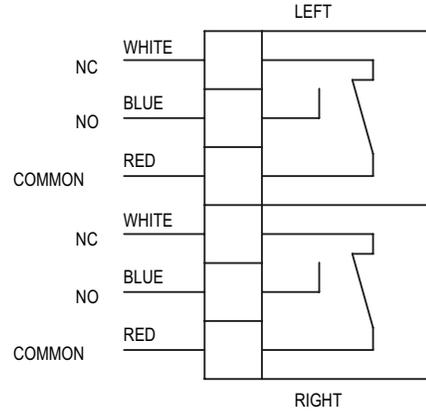

Figure 3: Wiring diagram
- See Figure 3 below for wiring configuration.